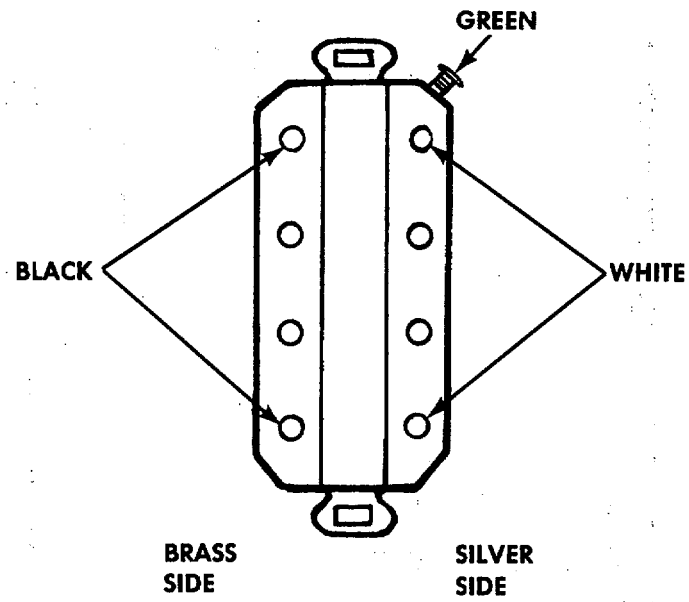

Figure 2 60 Hertz 115 Volt AC Receptacle Wiring.
- (1) Install junction box (1) with four blind rivets (4), if removed.
- (2) Cut conduits (6) to length and position and secure to front and side walls with straps (5) and blind rivets (4).
- (3) Insert fittings (from junction box) into ends of conduit and install conduit through junction box nut and into junction box. Tighten nut to secure conduit.
- (4) Thread wires (23), (24) and (25) through conduit, cut to length, strip ends and connect to receptacle (2). (See figure 2 and Wiring Diagram, figure 6).
- (5) Secure receptacle (2) into junction box (1).
- (6) Install cover (3) on junction box (1).